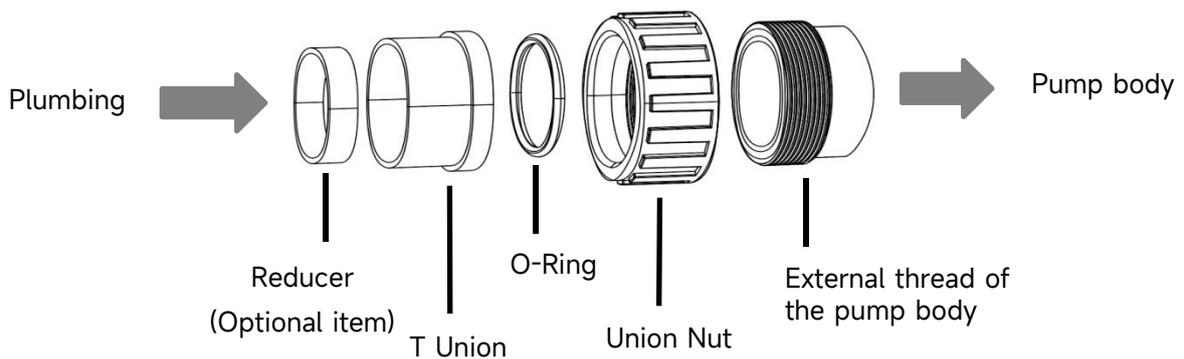

Figure 3 - Union Kit
3) Use the UNION KIT supplied by the pump manufacturer (Refer to Figure 3). Do not use other fittings to connect the pump inlet/outlet, in case the fittings are not match and damage the pump body.